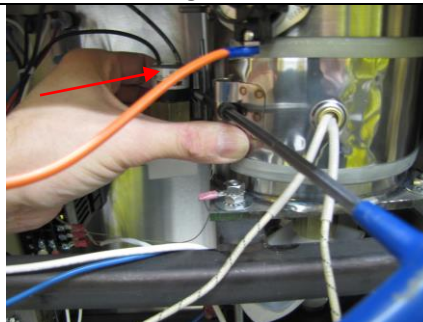
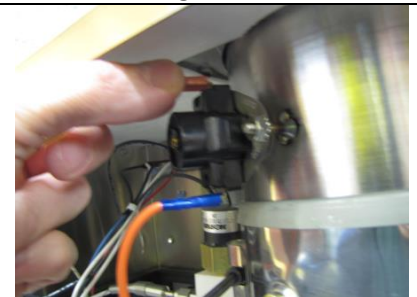

Figure 15
Figure 16
8. Use a 3/16" hex driver (Allen Wrench) to bolt the Heating Band together tightening it to the vessel. Be careful to space the open end of the heating band around the pressure sensor – denoted by red arrow, shown in Figure 15. Reconnect wire to the Thermal Switch as shown in Figure 16.